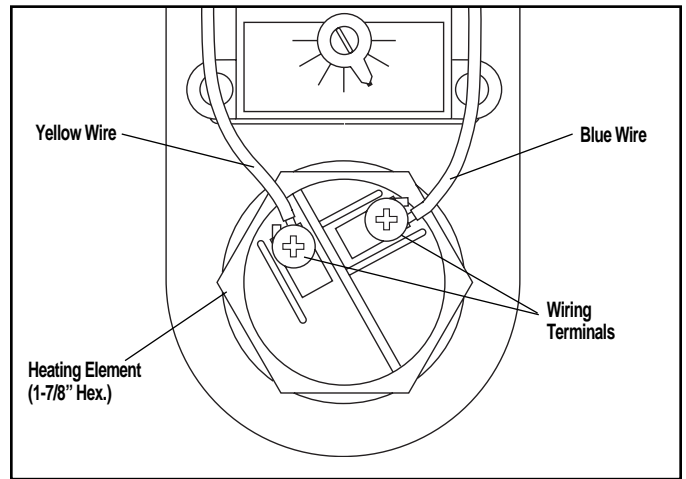

Figure 18. — Typical Element Wiring (upper or lower element position).
- H. After again insuring that the electrical power is off, disconnect the two wires from the element terminals. (See Figure 18).
- L. Reconnect wiring to the terminals on the element (see Figure 18).